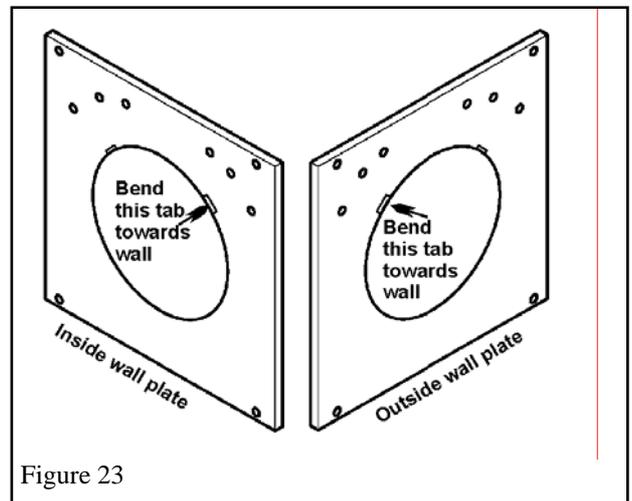

Figure 23
2. Bend the inner wall plate tab as shown in figure 23 so that the seam on the terminal tube will pass clearly through the plate with the wall shield at the top. Place the inner wall plate over the terminal unit.
7. Bend the outer wall plate tab as shown in figure 23.